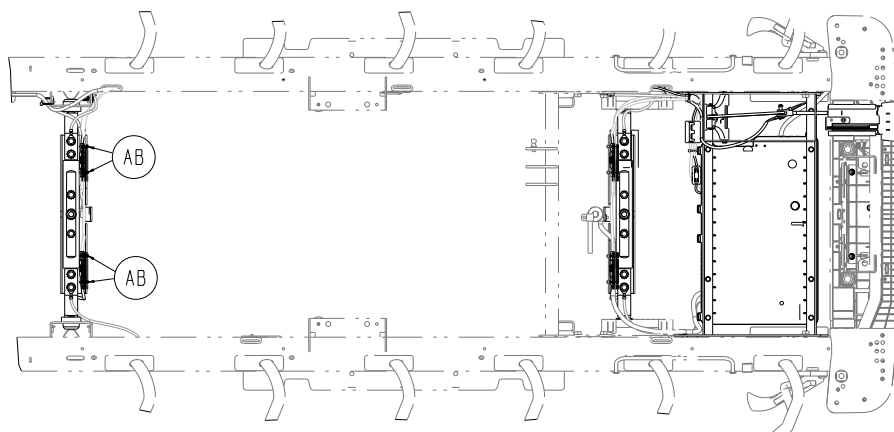

Figure 42 – Head end lift header - cable tie locations
6. Using wire cutters, cut the four cable ties (AB) that secure the 1/4" jack cable assembly and the IR/nurse call assembly cable to the head end lift header to access the cable connector (Figure 42). Discard the cable ties.